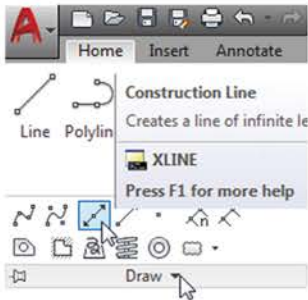
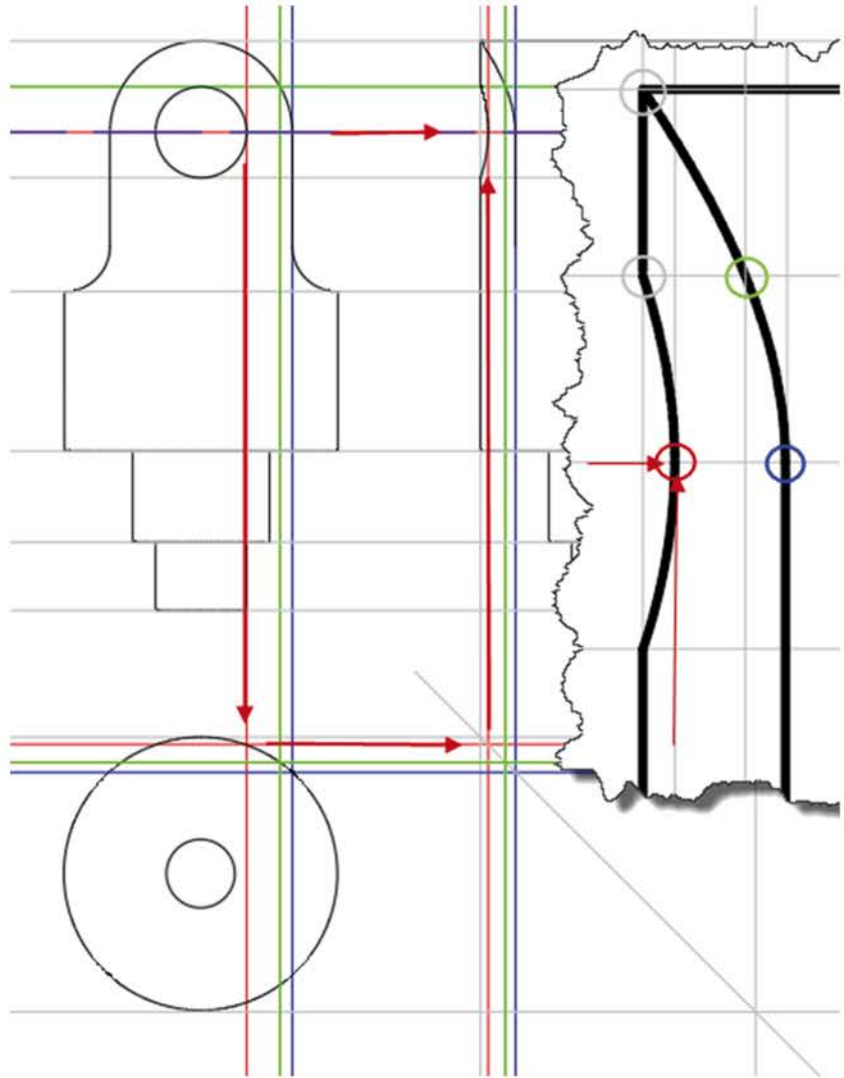

Fig. 8.4 Construction Line command
Fig. 8.5 Outlines and construction lines
2. Place the two visible circles of the **Top View** below the **Front View**. Make the **Construction** layer current and start drawing Construction Lines from the expanded Draw panel (Fig. 8.4). Use the options of the **Construction Line** tool to draw horizontal and vertical construction lines. In the lower left corner draw a 45 degree construction line as shown in Fig. 8.5.